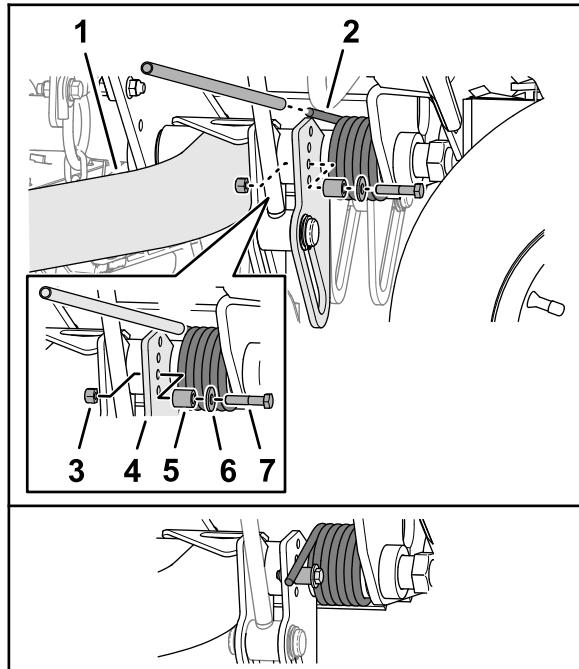

Figure 60
2. Insert a tube or similar object over the long leg of the spring, and lift the spring leg to relieve pressure on the spacer (Figure 60).
3. While holding the spring, remove the bolt, washer, and locknut from the lift plate (Figure 60).